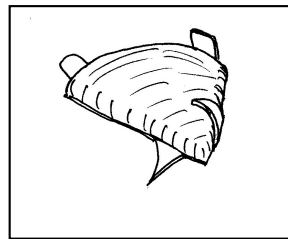

figure 6
- 4) Using a pair of pliers or your fingers, bend the tabs upward, not quite perpendicular to the surface of the background piece. Place the object to be mounted on top of the finished background piece and bend the tabs down against the object, pushing them with a piece of wood or plastic (figure 6). It is important to get the tabs down in one operation. That is, don't bend them down part way and then try and straighten them or the tabs will become work-hardened and will never sit flat against the object.